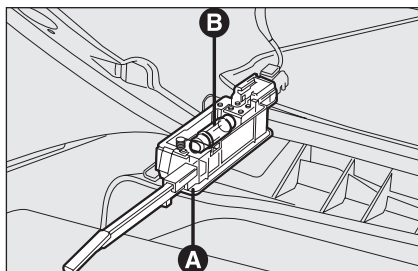

fig. 44
- ☐ open the glovebox, then remove the light unit **A-fig. 44**;